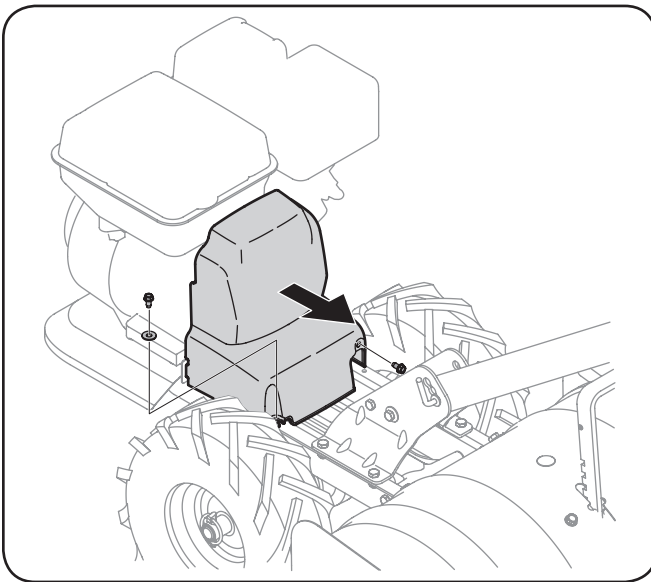

Figure 7-1
2. Remove the belt cover as seen in Fig. 7-1, by first removing the two ¼-20 self-tapping hex screws. Lift the belt cover up and away from the tiller and set in a safe location until reinstallation.